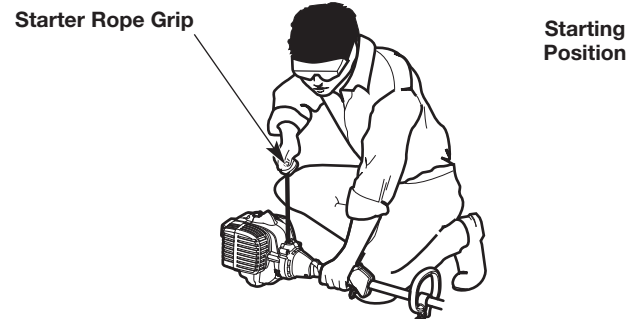

Fig. 12
**WARNING:** Avoid accidentally starting the unit. To avoid serious injury, the operator and the unit must be in a stable position when pulling the starter rope (Fig. 12).
5. **DO NOT** squeeze the throttle control. Crouch in the starting position (Fig. 12).
6. **DO NOT** squeeze the throttle control. Pull the starter rope with a controlled and steady motion until the unit starts (Fig. 12).